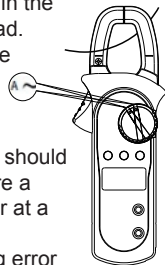

Figure 12
10. AC current measurement (A) (See Figure 12)